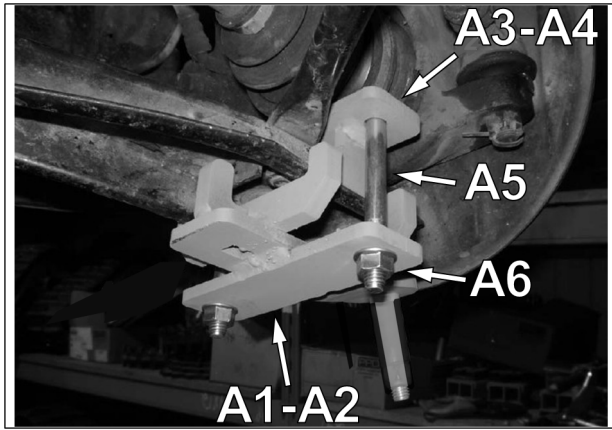

Fig. 14
- Position anchor bracket (A1-A2) under front lower suspension arm, as shown in the figure below. Position bracket cover (A3-A4) over suspension arm and align holes in cover and bracket. Insert M10x85mm bolts (A5), from the top, through the cover and bracket. Secure the two parts together using the nuts (A6) provided. Tighten assembly to 50 Nm [37 lb-ft] of torque. Refer to Fig. 14